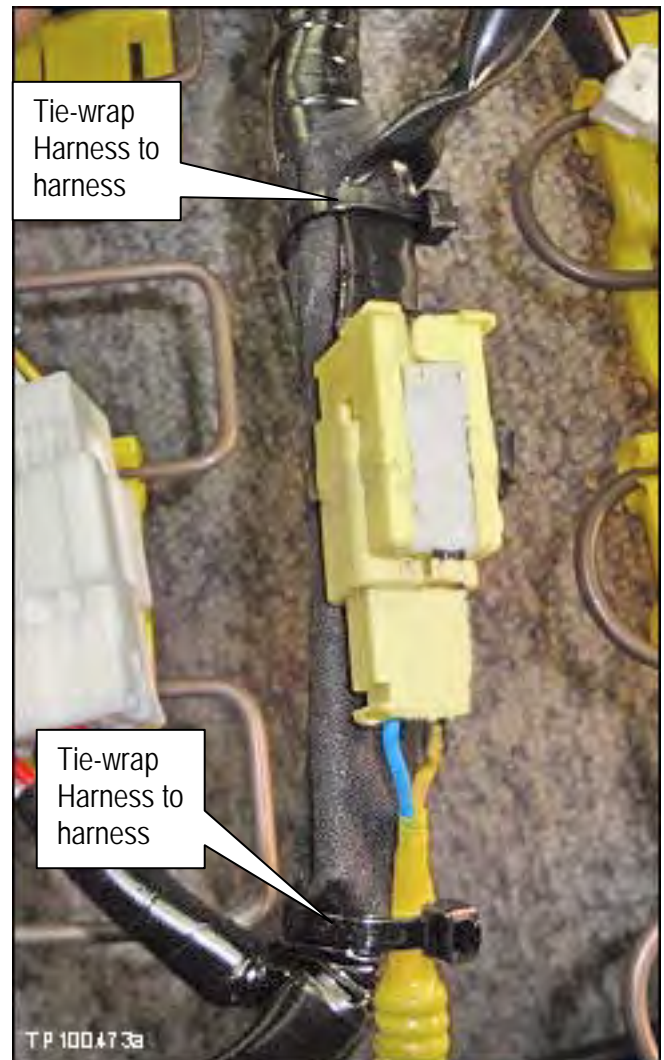

Figure 6c
- Two tie-wraps (P/N 24216-S5800) - harness to harness - as shown in Figure 6c.